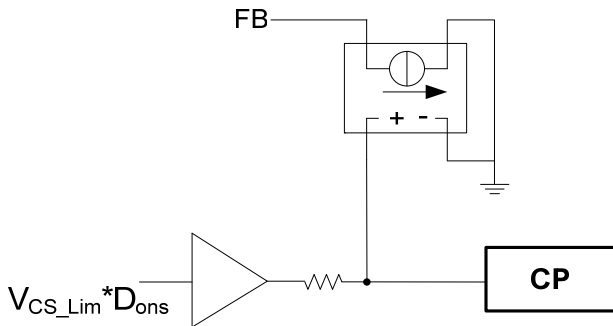

Figure 10: Output Cable Compensation
The MP023 has an internal output cable compensation (CP) circuit (see Figure 10). A switching signal ($V_{CS_Lim} * D_{ons}$) is generated internally and is synchronized with the switching frequency. The duty on-time of this signal is D_{ons} , and the amplitude of this signal is proportional to the current-limit threshold. This signal is output to CP through a 1MΩ resistor. A low pass filter can be implemented by placing an external capacitor on CP, and then a DC voltage (V_{CP}) proportional to the output current can be deducted on CP. Note that if cable compensation function is needed, D_{S-Max} is default as 0.4 and can't be programmable by connecting external CP resistor.